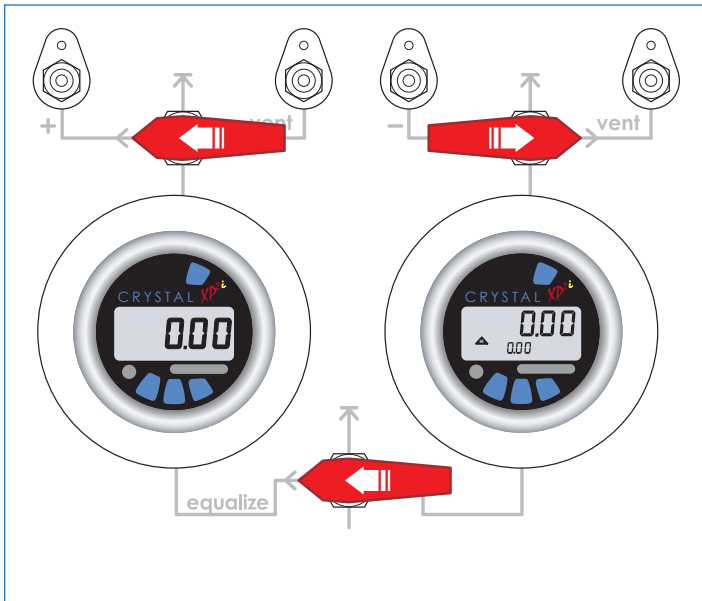

Figure 4: Vent both gauges.
- 6 Vent:** Vent left-hand (+) gauge as shown in figure 4. Reverse both upper valves to vent the right hand (-) gauge.